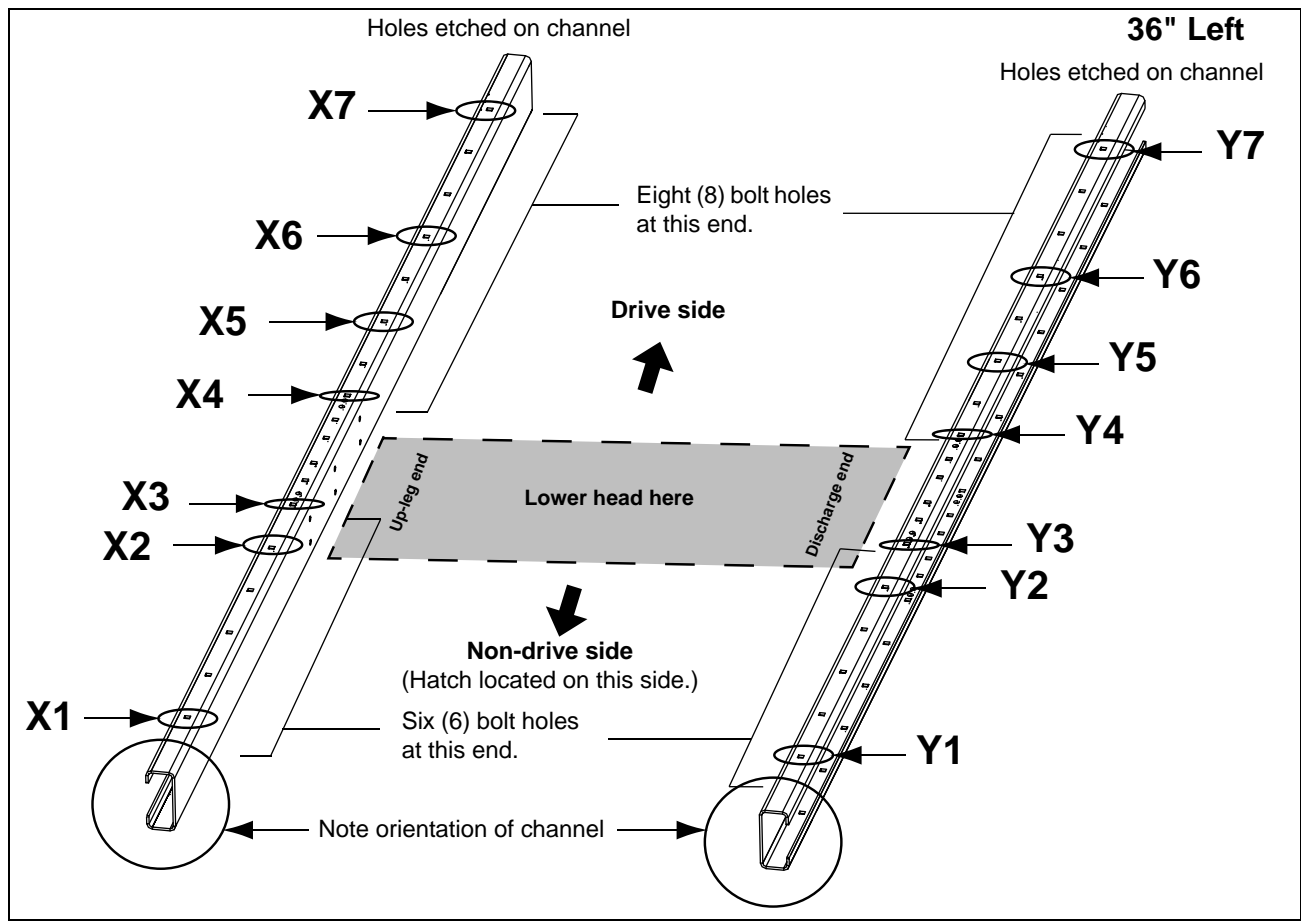
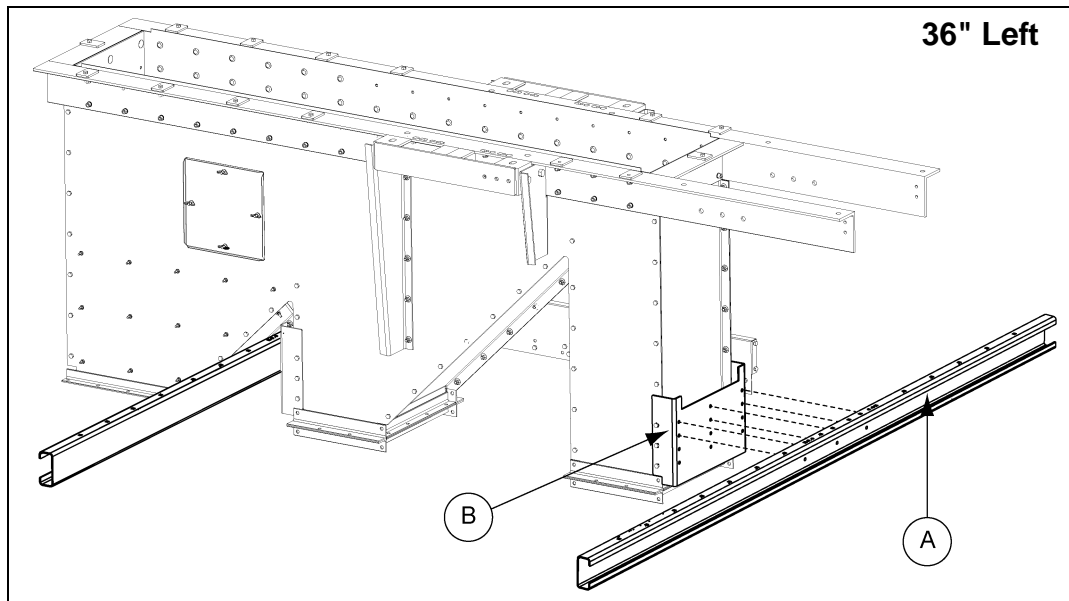

Figure 9D 36" Left Side Drive Channel Position
Figure 9E
(See Figure 9D on Page 67.)
3. Attach cross deck support channels (HP36DSCX) (A) to the top most set of holes of the lower head brackets (HSP36130) (B) using 3/8" x 1" bolts and nuts. (See Figure 9E on Page 67.)
***NOTE:** *The channels MUST be oriented as shown in Figure 9D and Figure 9E on Page 67 in order for the decking and subsequent assembly to be done correctly.*